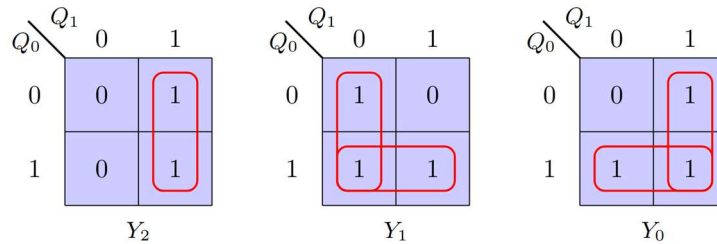

Figure 4: Output Logic K-maps
Similarly, the output logic is determined from the K-maps of each output bit as a function of Q_1 and Q_0 , as shown in Figure 4.
Minimizing the K-maps in Figure 4 yields (3) – (5) which describe the combinational logic of each output bit.